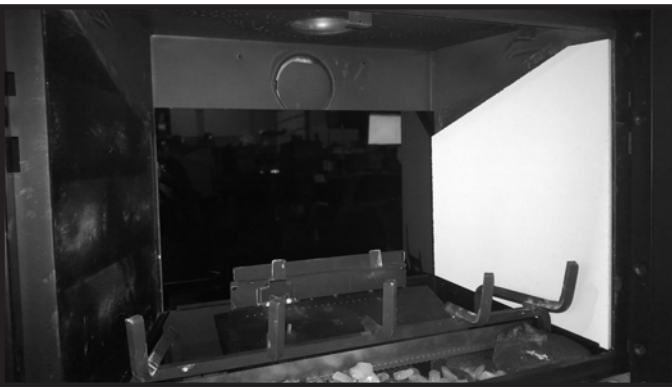

Figure 2. Install Rear Glass Panel
3. Install rear glass panel in front of insulation board on rear refractory bracket. Hold rear glass panel in place and slide one side insulation board into position between side refractory bracket and side of firebox as shown in Figure 2.